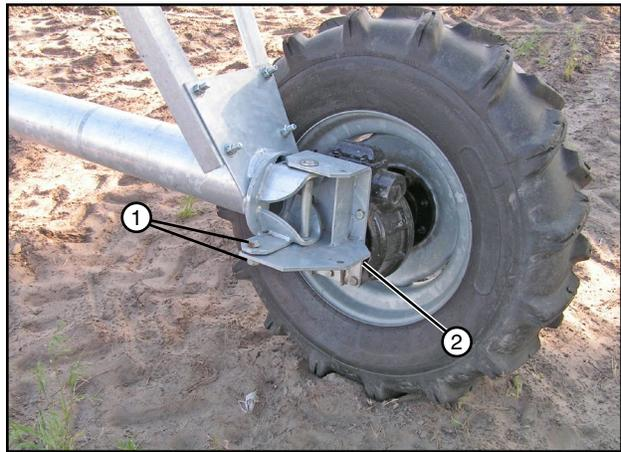

Figure 36-1 1. Hardware
- Secure gear box mount in the operating position with the original hardware. See figure 36-1.